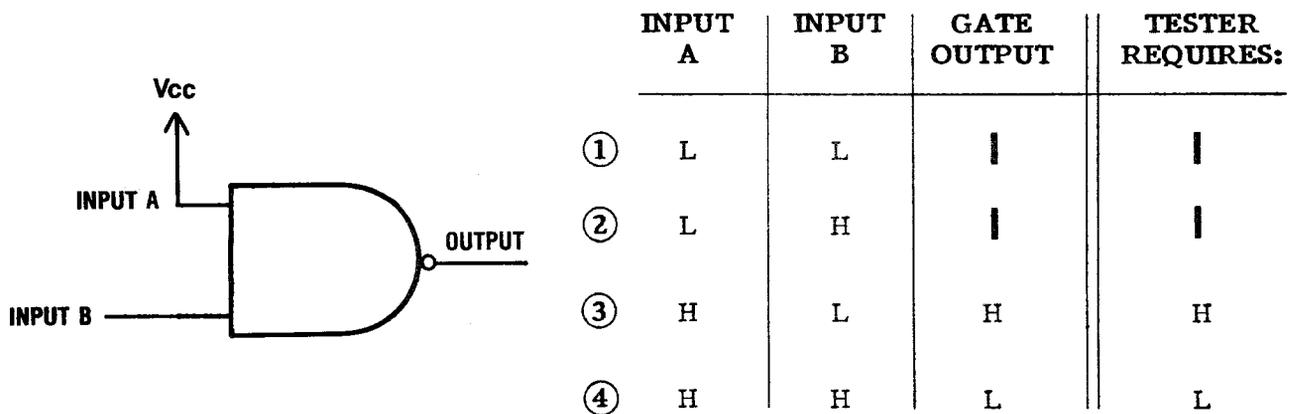

Fig. 7. In-Circuit NAND Gate with Disqualified Conditions.
A non-standard wiring configuration which exemplifies a NAND gate whose truth table and function is altered through hard-wiring of inputs was shown in Fig. 5 and is used here again as the example in Fig. 7.
Fig. 7 shows the 2-input NAND gate with its standard truth table, with test pattern ② being disqualified as a condition which caused an error when using a conventional test. In other words, this was the test pattern that resulted in the NAND gate giving a "tests defective" result even though the NAND gate was good.
Now, say we have a NAND gate wired as shown in Fig. 7. Assume we know for a fact
Whatever output pattern that was created by the "hard-wiring" and stored will be the required output for other similar circuits (for this example, the circuit shown in Fig. 7).
These patterns yield the "new" Truth Table. The "new" patterns ① and ② will be used by the Model 560 Compare Mode to test additional "Fig. 7" circuits.